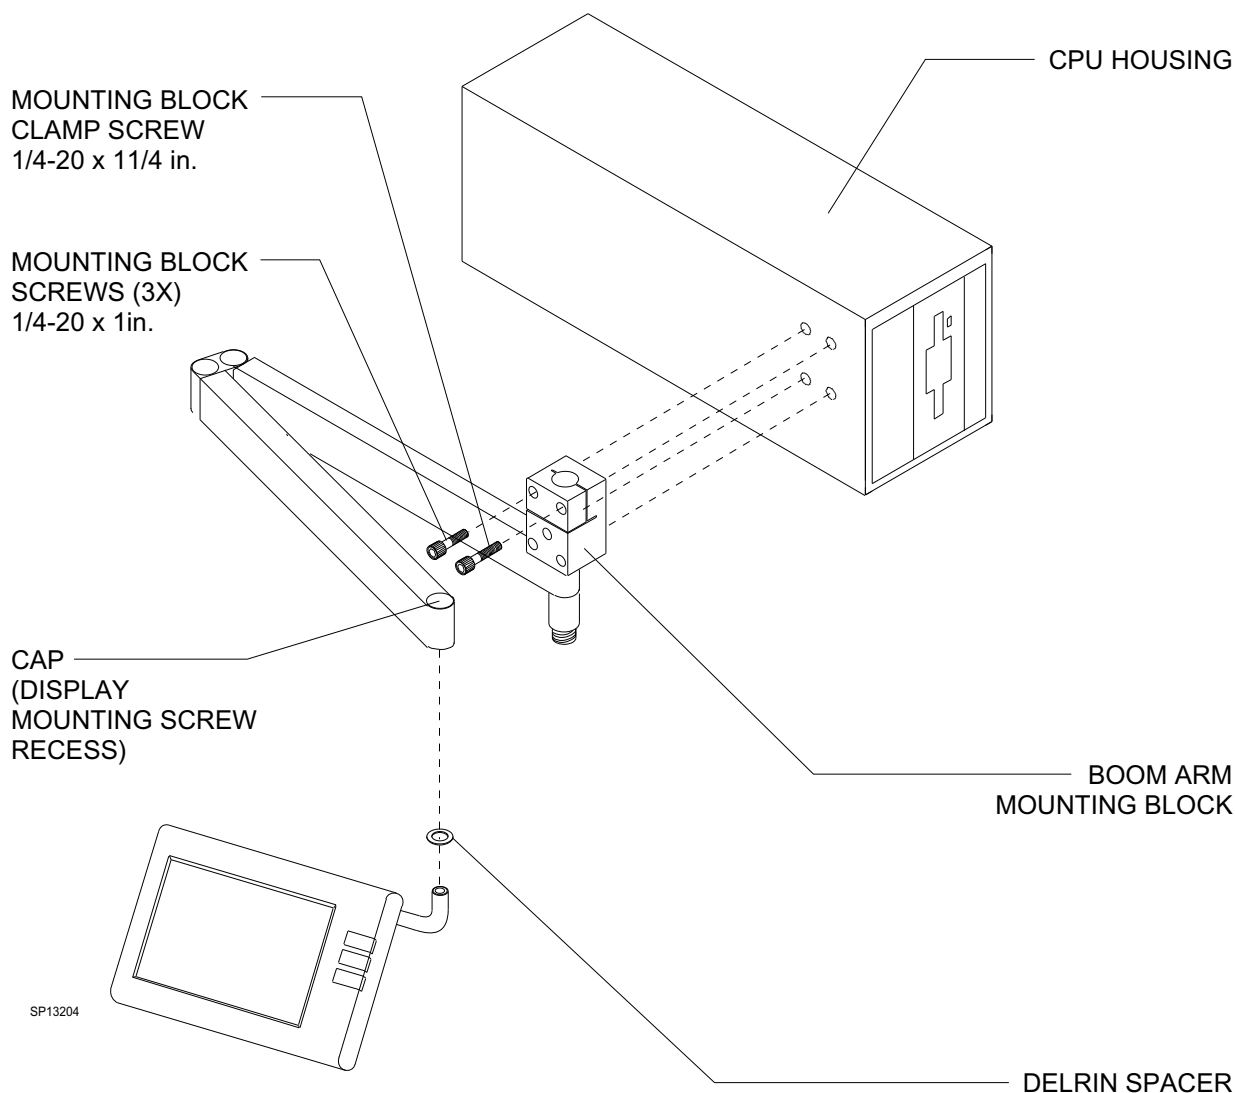

Figure 4: DISPLAY AND EXISTING BOOM ARM REMOVAL
12. Remove the plastic cap at the end of the boom arm to expose the remote display mounting screw. See Figure 4.